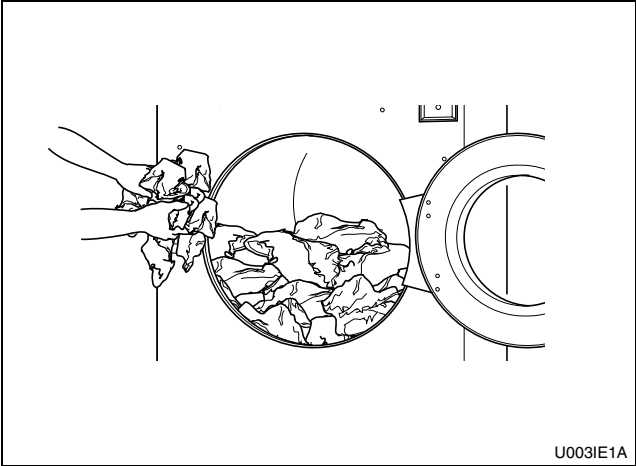

Figure 16
3. Load to capacity whenever possible. DO NOT OVERLOAD. Refer to *Figure 16*.